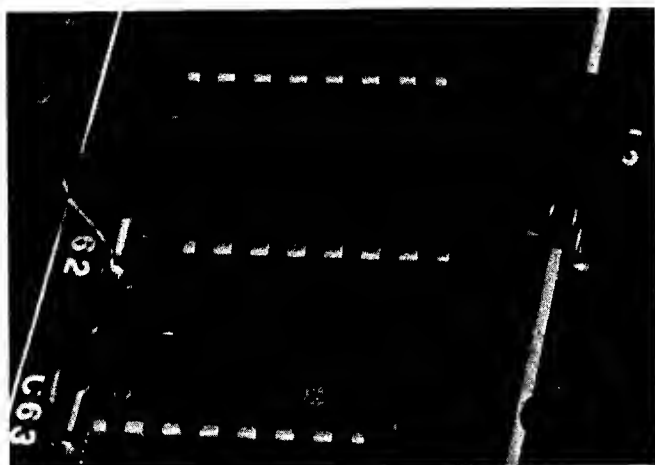

Fig. 3-14. Be careful you don't offset the chip by one pin.
- Don't offset the chip over the socket by even one pin, as shown in Fig. 3-14.